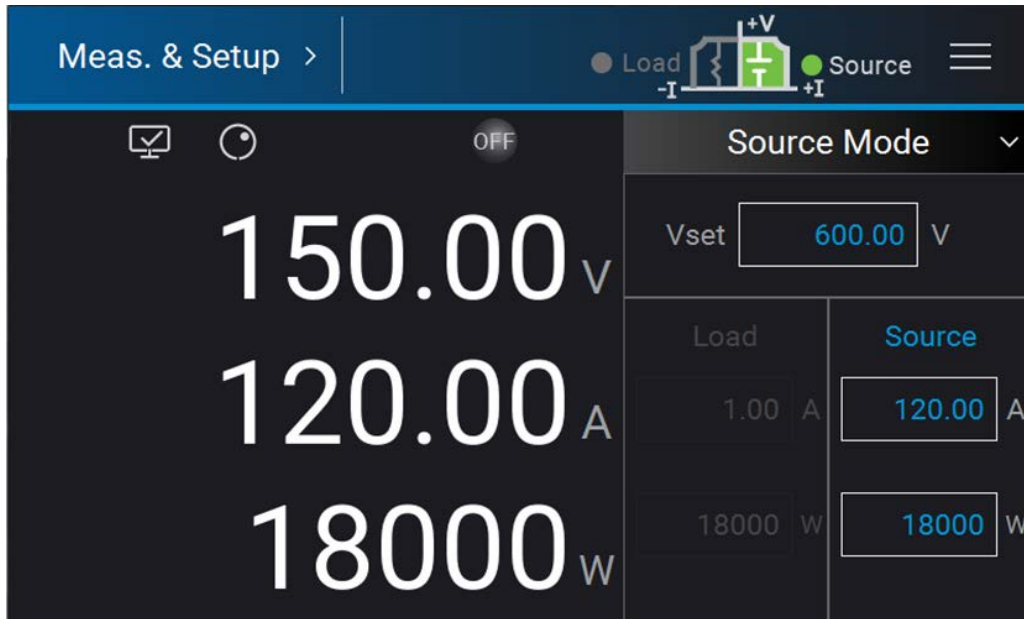

Figure 3-5
1. Tap the drop-down menu and select Source Mode; the panel will switch to the screen as Figure 3-5 shows.